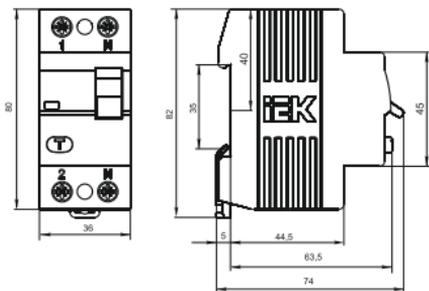

Figure 1 – Overall and installation dimensions of two-polar VDs
2.4 Overall and installation dimensions are shown in Figures 1 and 2.